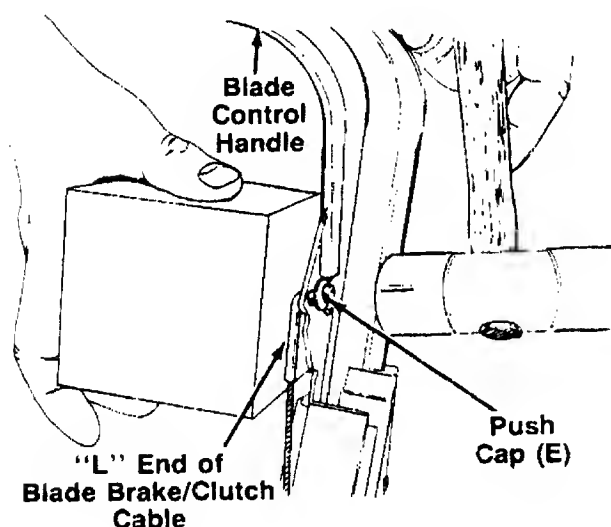

FIGURE 5.
8. Insert the "L" end of the blade/brake clutch cable into the hole in the blade brake/clutch control handle. Press push cap (E) onto the end of the cable by hand. Then tap push cap on securely, using a hammer and a block of wood as shown in figure 5.